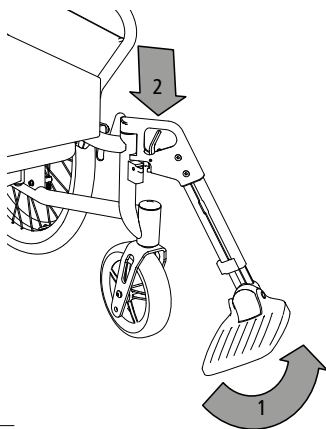

Fig. 25
1. To remove the leg rest, first remove the calf strap (see Chapter 3.6) and then the foot board. You can then fold up the footplates (1, Fig.25).
2. Pull the locking lever (2, Fig. 25) on the side and swivel the leg rests out.